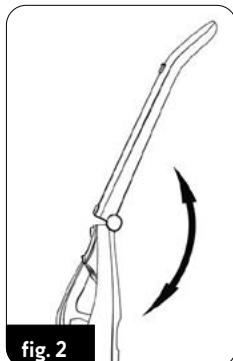

fig. 2
4. Unfold the handle assembly (2) and lock in the extended position (fig.2). Folding of the handle is possible by pressing the button (3).